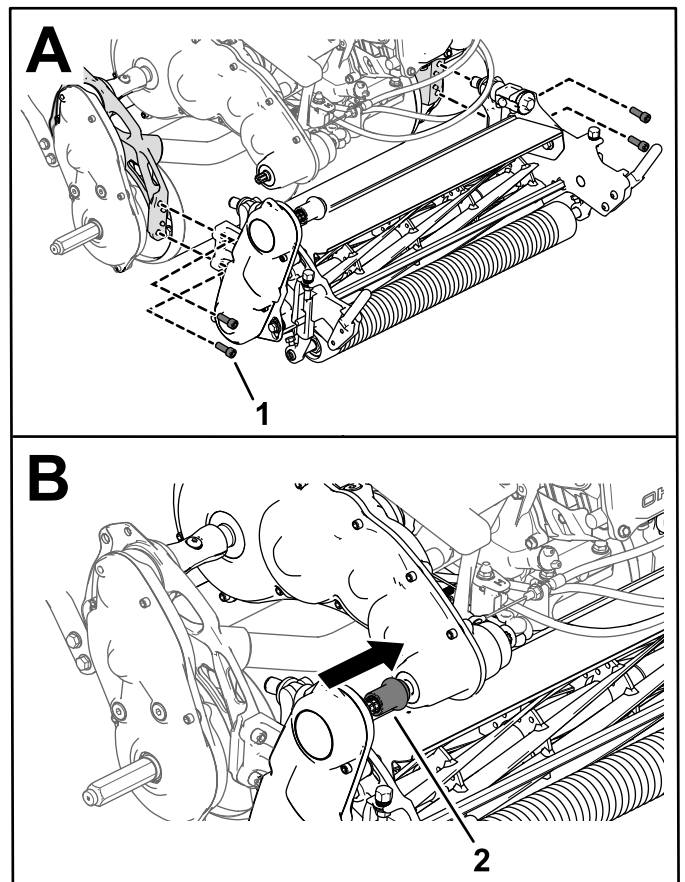

Figure 46
4. Slide the cutting-unit-drive coupler onto the transmission driveshaft (Figure 46).
3. Use 4 socket-head screws to secure the cutting unit to the frame (Figure 46).